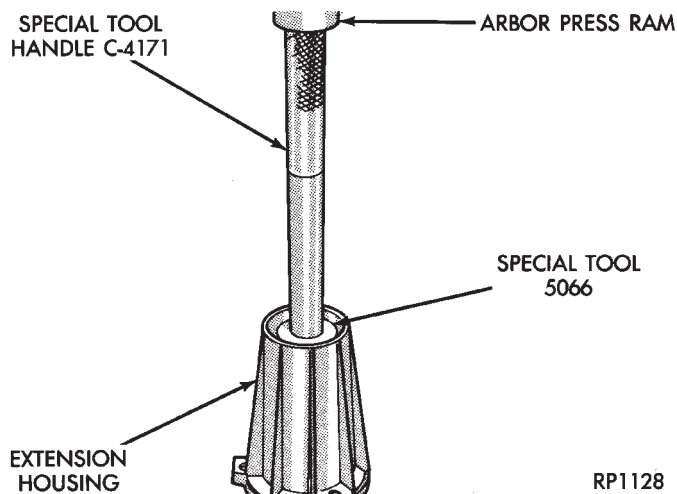

Fig. 71 Installing Extension Housing Bushing
(17) Install new extension housing bushing with Installer Tools C-4171 and 5066 (Fig. 71).
(18) Install new seal in extension. Use suitable size socket, or installer tool to seat seal.